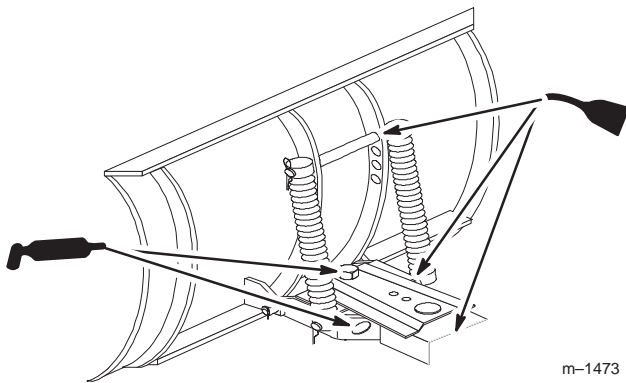

Figure 24
3. Clean the area around the channel pivot with a rag. Apply grease to the pivot bolt, frame and sector (Fig. 24).
2. Place a few drops of oil on all movable linkages (Fig. 24).